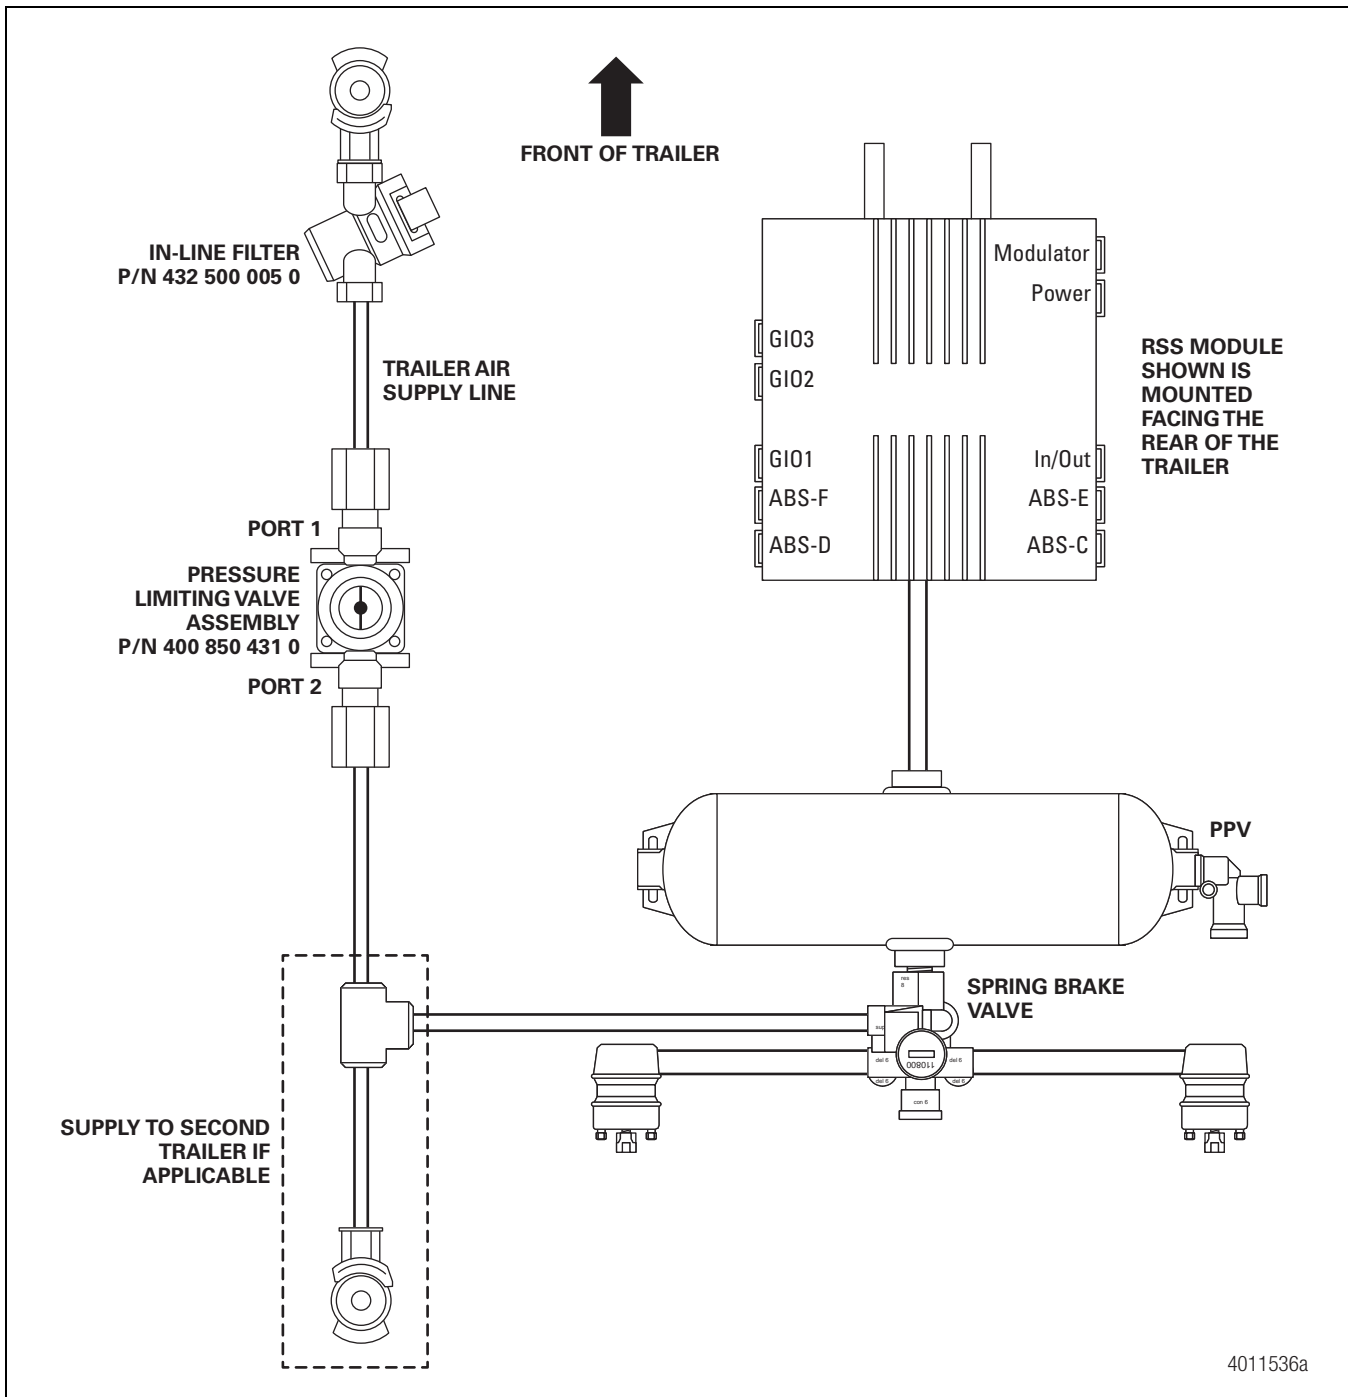

Figure 2
NOTE: In applications where multiple spring brake valves are used, for example B-trains, plumb the pressure limiting valve on the lead trailer before the first spring brake valve in the system, and before the tee that feeds the second trailer. This will limit pressure to both the lead and pup/trailing trailers. Figure 2.
3. Ensure that the minimum amount of nylon air line length is used between the connection of the pressure limiting valve and the spring brake valve, as this will affect system timing. Figure 2.
5. To protect the pressure limiting valve from contamination, Meritor WABCO requires you to install an in-line filter plumbed upstream from the pressure limiting valve as shown in Figure 2. This should be mounted with the bronze colored retainer slide facing down. Refer to TP-03100 for complete in-line filter installation information.